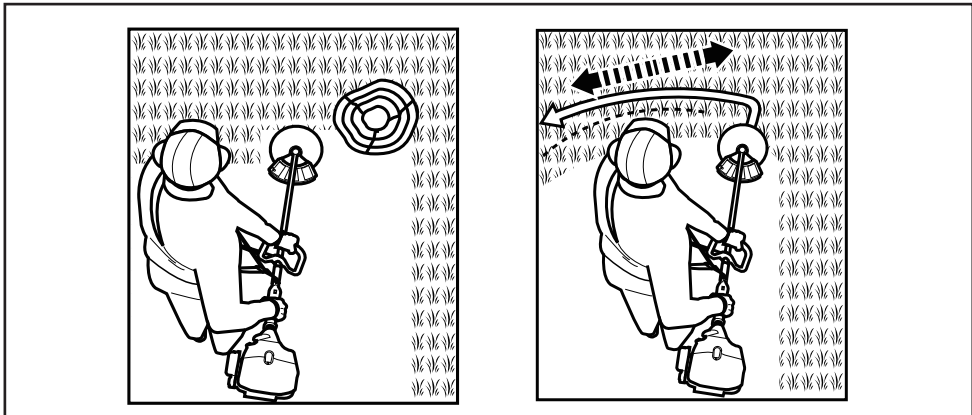

Fig. 18
- Move the machine with slow and regular motion from left to right before moving it back to the starting position and trimming the next area (Fig. 18).
- Pay special attention when performing the work close to trees and bushes (Fig. 18).